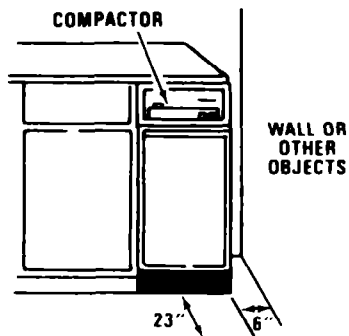

FIGURE 2
2. Your compactor is designed for recessed installation. A six (6) inch clearance from the right edge of the drawer front is desirable for added convenience in bag removal. Also allow twenty-three (23) inches in front of the appliance for drawer removal. See Figure 2.